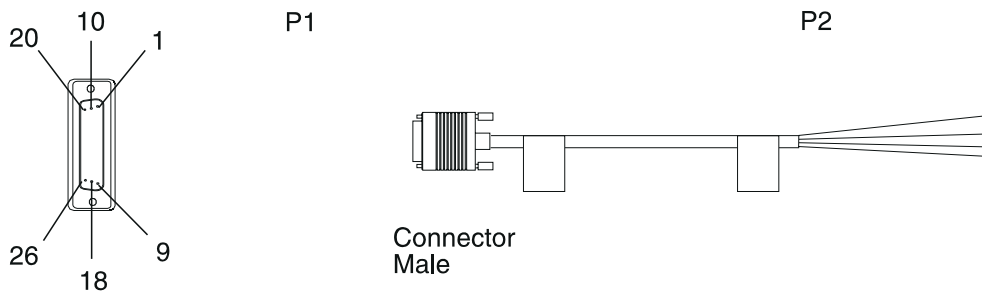

Figure 27. E1 Twisted-Pair Cable
- Two twisted pairs, AWG 24, 120 ohms (see Figure 27).